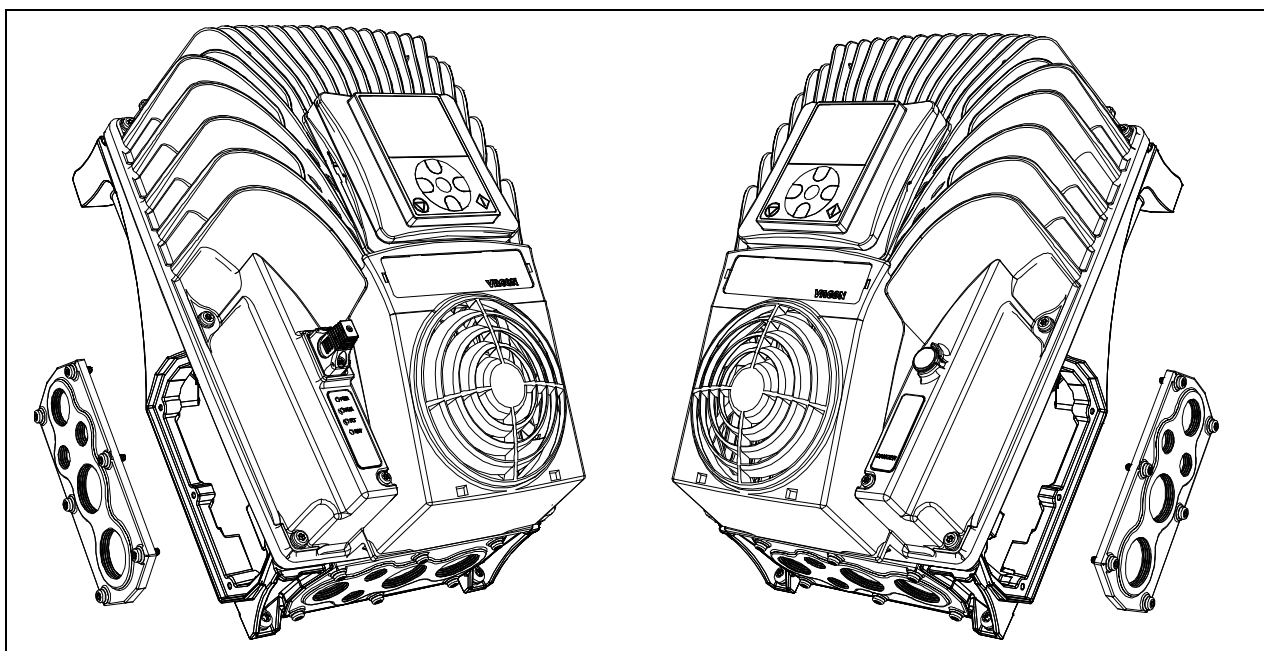

Figure 46. Disconnect the cable entry plate: example for MM5.
- Remove the cable entry plate from the drive on the left-hand-side if the mains switch must be mounted on this side. Otherwise remove the cable entry plate from the right-hand-side. See the Figure 46.